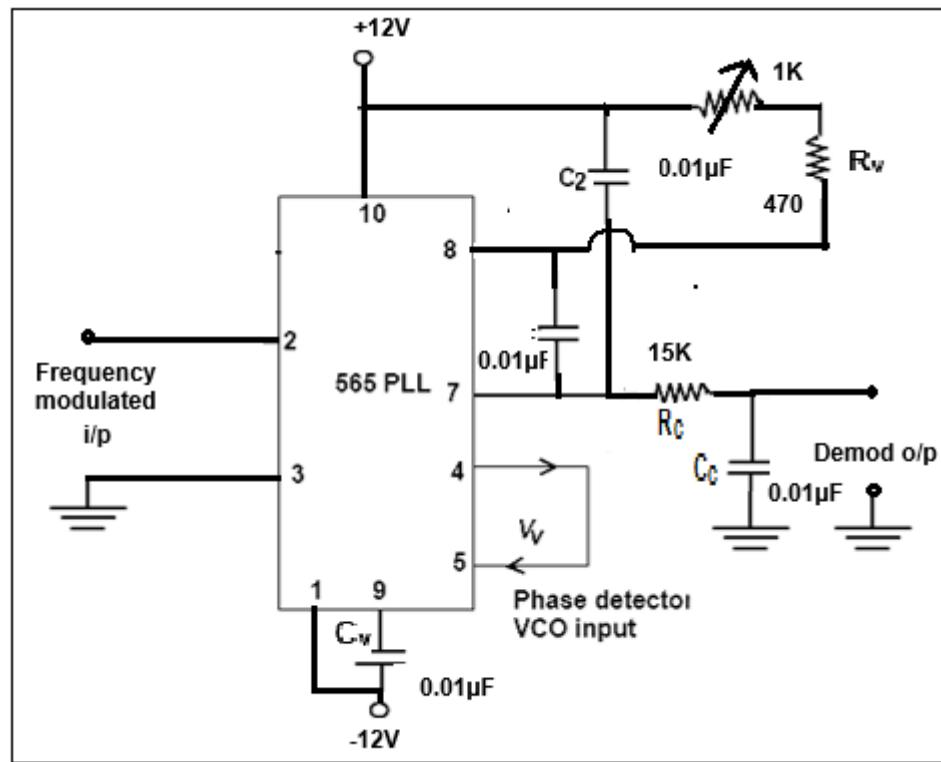

Figure 7: Frequency demodulation Circuit diagram using IC 565
1. Make connections as shown in circuit diagram of Figure 7.